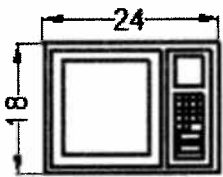

Figure 6-18b
- To find the dimension of a block, (i) insert the block in question at the scale factor of 1.0 in X, Y, and Z-direction and Angle = 0. (ii) Add the dimensions to the block. Figure 6-18b show the trial block.